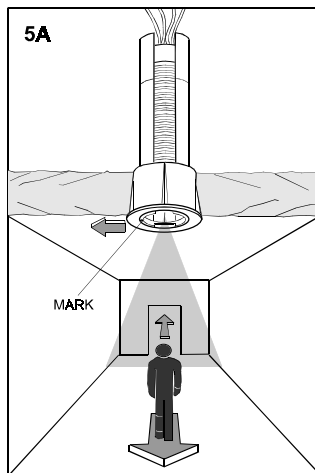

Figure 5A - Model SPY 4 Installation with Collar
Installation with Collar: Select a location so the curtain pattern lies across the anticipated direction of motion (Fig. 5A).
Step 5 - Orient the detector unit so that the mark on the unit is perpendicular to the direction of motion (Fig. 5A).